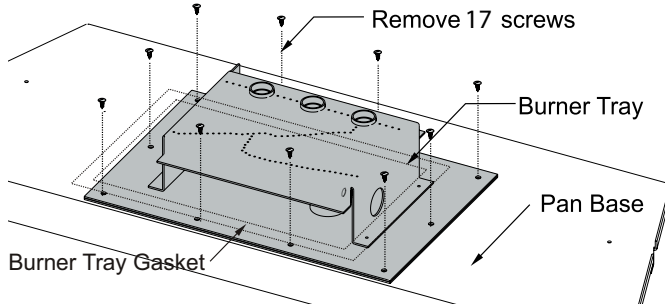
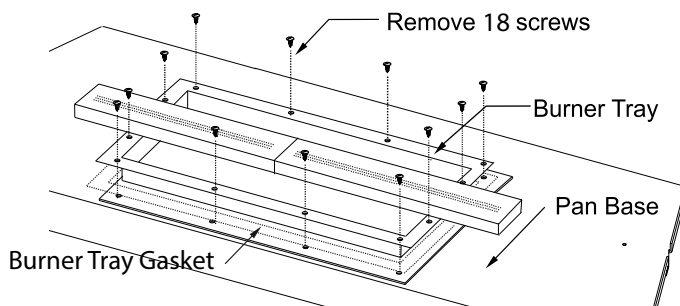

Figure 2 Removing the burner tray (L38DF, L42DF, L52DF models only).
Figure 3 Removing the burner tray (L38DF, L42DF, L52DF models only).
- Reinstall the burner tray. See Figure 2 or Figure 3 for examples